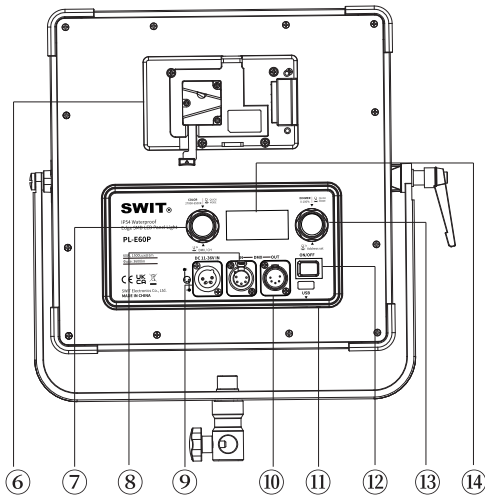
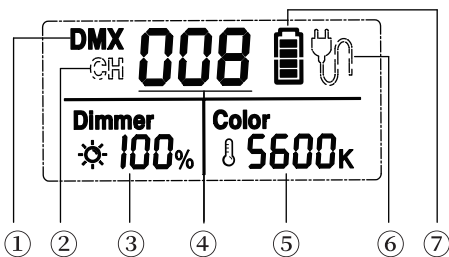

Fig 6 PL-E60P
Fig 8 LCD Display
The light provides two ways of power supply, by V-mount or Gold mount battery or by 4-pin XLR AC-DC power. Turn on the light (Fig. 6 ⑫) and set the color temperature (Fig.6 ⑬) and brightness (Fig. 6 ⑦) to user's requirements.
The light provides two ways of adjusting the color temperature and brightness: normal adjusting mode and quick adjusting mode. User can switch the adjusting mode by press the dimmer knob and color temperature adjusting knob (Fig.6. ⑬/⑦).
Press and hold dimmer knob (Fig 6 ⑬) for 2s to enter communication address setting interface, the address setting range is 001 to 512. LCD digital tube (Fig 8 ④) flashing means the current address is selected, rotate the brightness adjusting knob (Fig6 ⑬) to set the current address, press the brightness adjusting knob (Fig 6 ⑬) to confirm, when finish the last setting, press the brightness adjusting knob (Fig 6 ⑬) or wait for about 5s to quit.
Connect the lights network through using DMX cable. Press and hold color temperature adjusting knob (Fig. 6 ⑦) for around 2 seconds to complete the communication control setting.
The upper left corner of LCD shows "DMX" (Fig. 8 ①) indicating that the communication control mode currently is the DMX communication mode. In this mode, connect the DMX signal output device to the lights network, and set up the communication address to work normally.
The upper left corner of LCD shows "CH" (Fig8 ②) indicating that the communication control mode currently is interaction control mode. In this mode, set the target lights to the same communication address to work normally, and the master-slave machine is not distinguished.